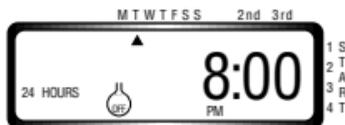

Figure 11
- With the timer in the **AUTO RUN** mode, press **CLEAR**. The water droplet will appear with off indicating that watering has been temporarily stopped or inhibited for 24 hours. [See Figure 11]